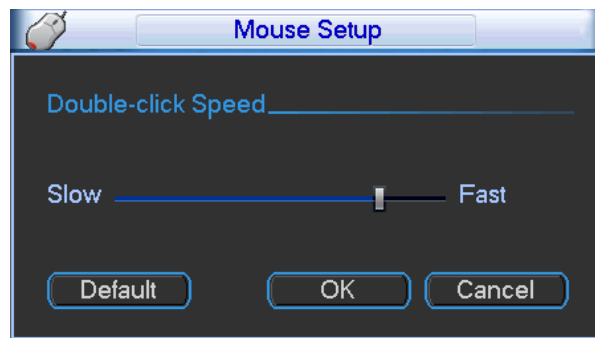

Figure 5-7
- Holiday setup: Click it you can see an interface shown as in Figure 5-7. Here you can set holiday date. Please go to chapter 4.5 Schedule to view or set the holiday date record setup.
- Mouse property: Click mouse setup button, you can go to mouse setup interface. See Figure 5-7. You can set double click speed via dragging the slide bard. You can Click Default button to restore default setup.